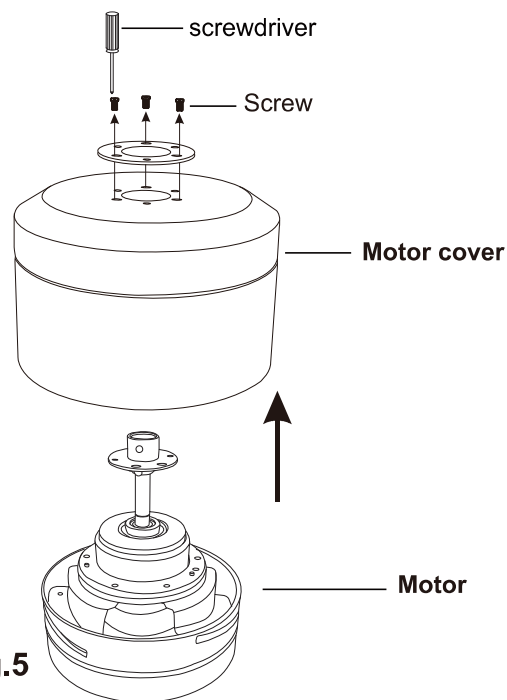

Fig.5
Step 1 Remove the motor cover by unscrewing the screws with a screwdriver. (Fig.5)